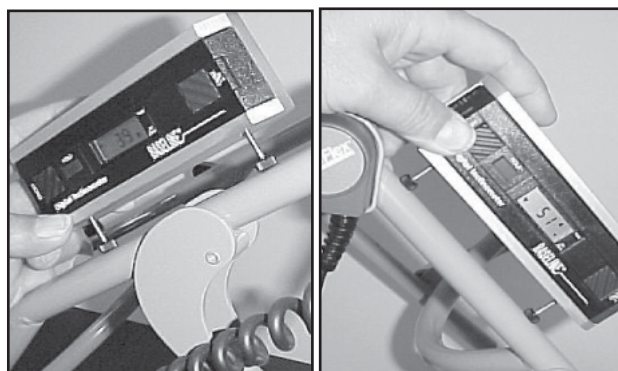

FIGURE 5.7
10. Using the Inclinometer or Protractor, measure the angle of the flexion of the unit. **Refer to Figure 5.7.**
In **Figure 5.7**, a Digital Inclinometer is used to measure each side and the two numbers are added together.